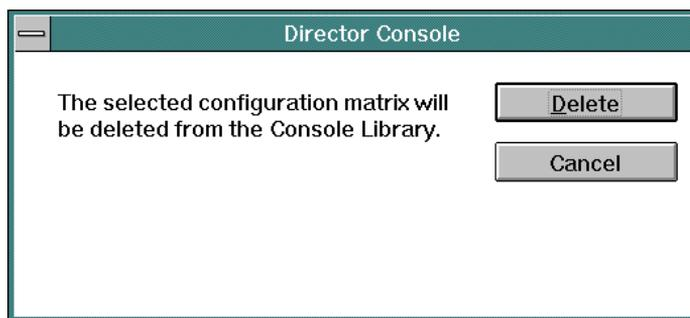

Figure 69. Delete Configuration Matrix Dialog Box
- **Delete** - To delete a configuration, highlight a desired matrix name and click the *Delete* button. The following dialog box appears (Figure 69).